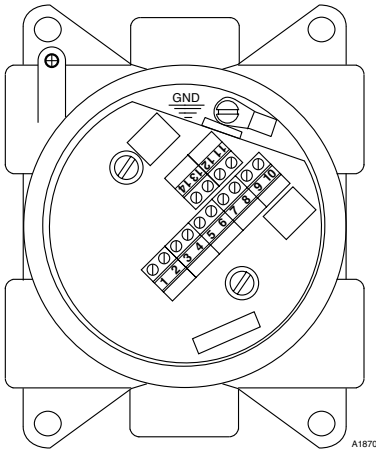
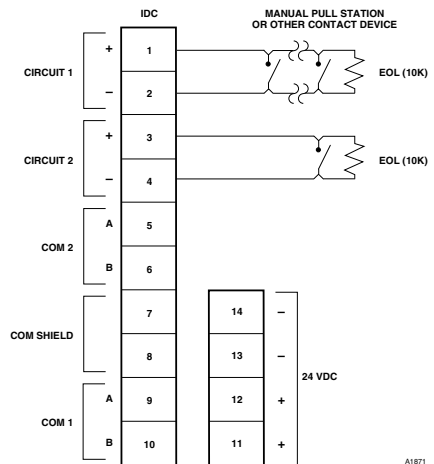
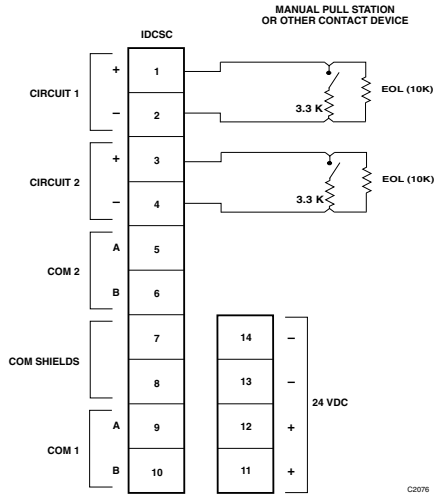

Figure 3-4—IDC Terminal Wiring Board Mounted in Six-Port Junction Box
Figure 3-5—Terminal Configuration for IDC
Figure 3-7—IDCSC Terminal Identification
2. Connect external system wiring to the appropriate terminals on the terminal block. (See Figure 3-4 for terminal block location and Figure 3-5 for terminal identification). The input to the IDC consists of one or more normally open switches (momentary pushbuttons are not recommended), with a 10K ohm, 1/4 watt EOL resistor in parallel across the furthest switch from the input.
2. Remove the communication module from the junction box. Connect external wiring to the appropriate points on the device terminal block. (See Figure 3-4 for terminal block location and Figure 3-6 for terminal identification)
2. Remove the communication module from the junction box. Connect external wiring to the appropriate terminals on device terminal block. (See Figure 3-4 for terminal block location and Figure 3-7 for terminal identification.) The input to the IDCSC consists of a normally open switch with a 3.3k ohm series resistor, and a 10K ohm, 1/4 watt EOL resistor in parallel across the switch.